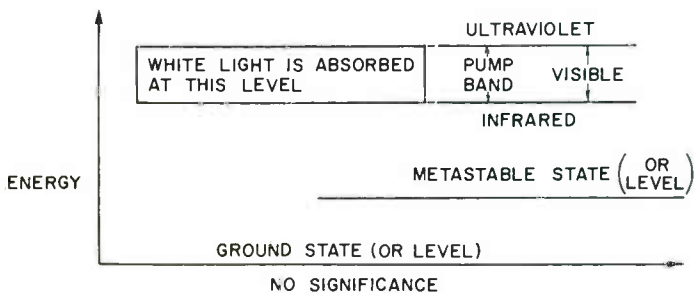

FIG. 7. (Left) This is a typical energy diagram of laser action.
The properties which an active element must have in order to function as a laser are (1) a broad pump level, (2) a metastable level, and (3) a ground level. (See Fig. 7.) Broad pump level means capable of absorbing a broad band of energy frequencies in white light. Metastable level means an energy level at which the atoms or ions can remain for a relatively long period of time. Ground level denotes the lowest, or normal energy level of the atom. (Fig. 8 shows a hydraulic analogy of three energy levels.)